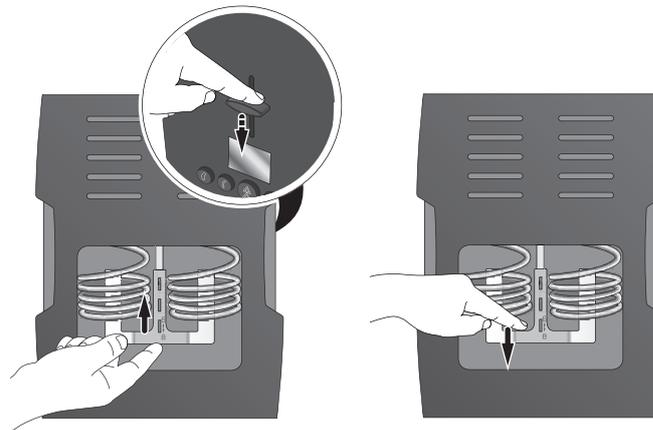

Fig. 10: (a) Remove the sausage holder (b) Fit the sausage holder
- Remove the sausage holder (fig.10 a) as follows: hold the slide control in place and lift up the upper corner of the sausage holder. The holder can now be taken out.
10. Re-insert the sausage holder (fig.10 b). This is done by inserting the wings of the holder from below into the heating coils. Secure it by fitting the protruding studs on the lifting mechanism into the corresponding recesses on the holder. Pull the holder downwards and check that it is firmly seated.